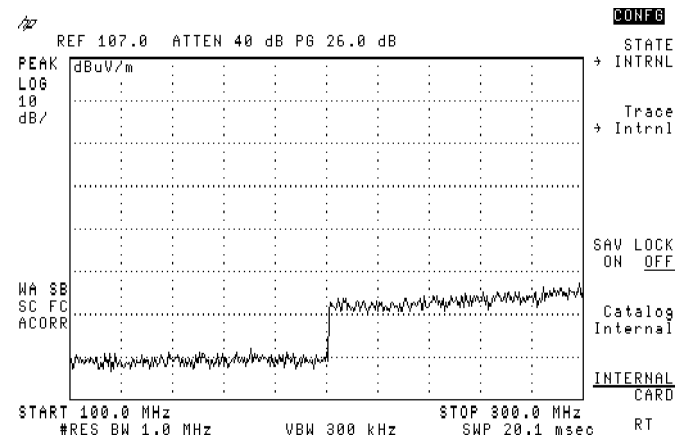

Figure 3-91. INTERNAL Underlined
2. Press **INTERNAL CRD**, INTERNAL will be underlined. See Figure 3-91.